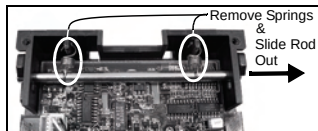

Figure 3-4 Rod Removal
6. Release the two springs securing the horizontal rod in place, and slide the rod out (See Figure 3-4).